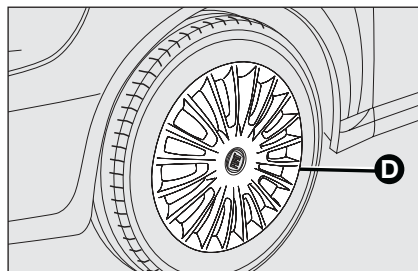

fig. 6
- ☐ For vehicles with steel rims, remove the pressure inserted wheel hub cap **D-fig. 6**;